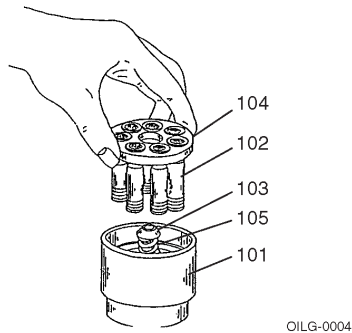

Figure 6. Rotating Group Disassembly.
2. Remove the rotating group by turning shaft (301) slowly, while pulling the cylinder barrel (101) from the housing.
3. Identify (number) each pump piston shoe assembly (102) and its respective bore in the cylinder barrel (101) and shoe retainer (104) for easy reassembly.
4. See **Figure 6**. Lift out shoe retainer (104) with pistons (102) and remove the fulcrum ball (103) and shoe retainer spring (105).
See Figure 6.